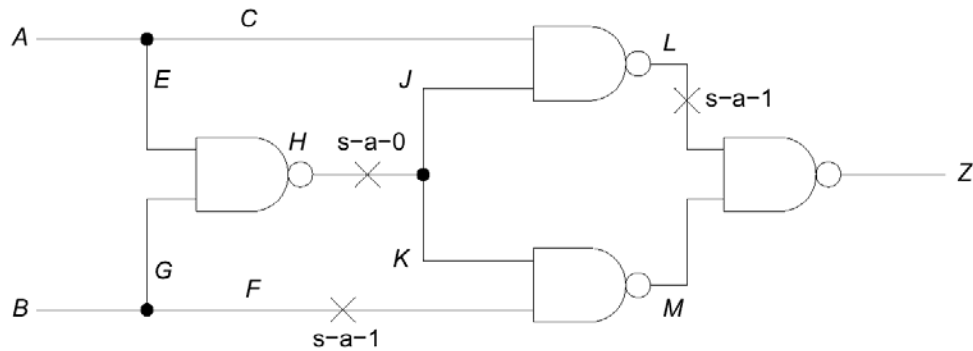

Figure 1. Circuit for Problem 1.
1. For the circuit in Figure 1, do the following: